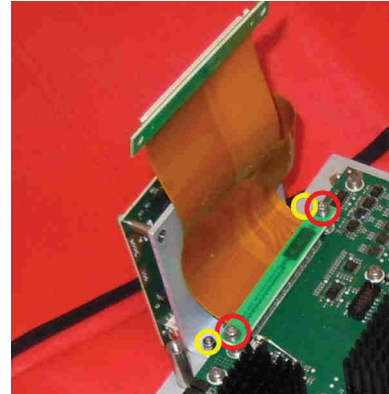

Fig. 10.19 Removal of board
- 8 Remove two screws and two nuts holding the connector and the support angle, respectively. See Fig. 10.19 \(p. 140\) - red circles indicate two screws on connector (tools 1/7), yellow circles indicate the two nuts holding the support angle (tools 1/2).